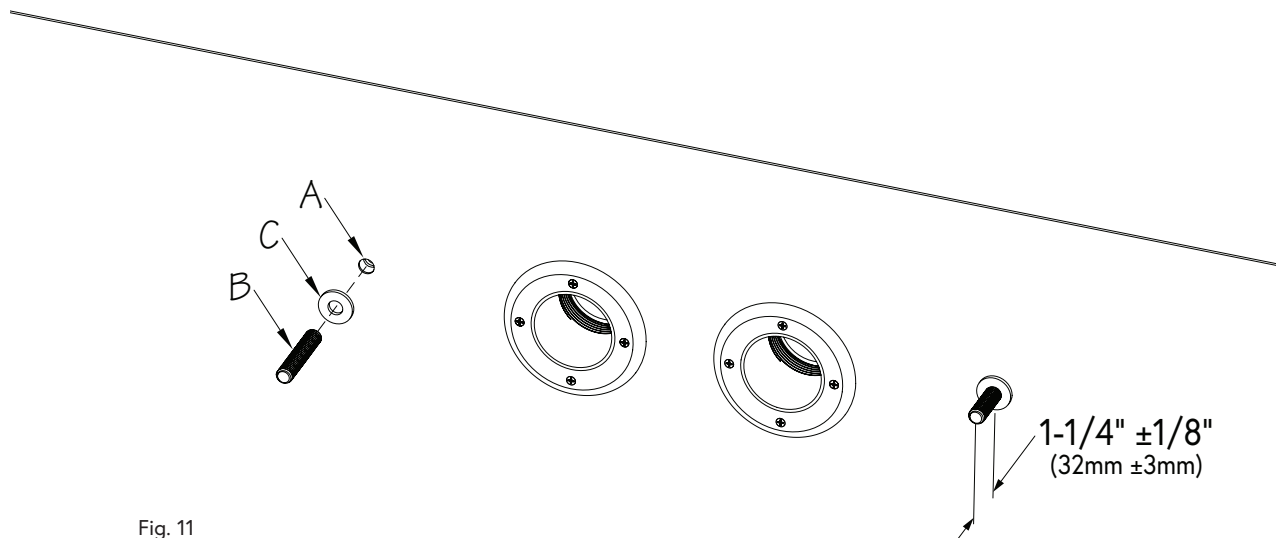

Fig. 11
10. Locate the Couplers (A) behind the liner. Use a sharp utility knife to cut out the round holes in the liner using the coupler holes as a template.
Thread the Stud (B) into the Coupler so that $1\text{-}1/4" \pm 1/8"$ ($32\text{mm} \pm 3\text{mm}$) of the stud is protruding into the pool. Spread a thin bead of silicone on the face of the Rubber Washer (C) and then install the washer over the Stud, adhering to the liner (Fig. 11).